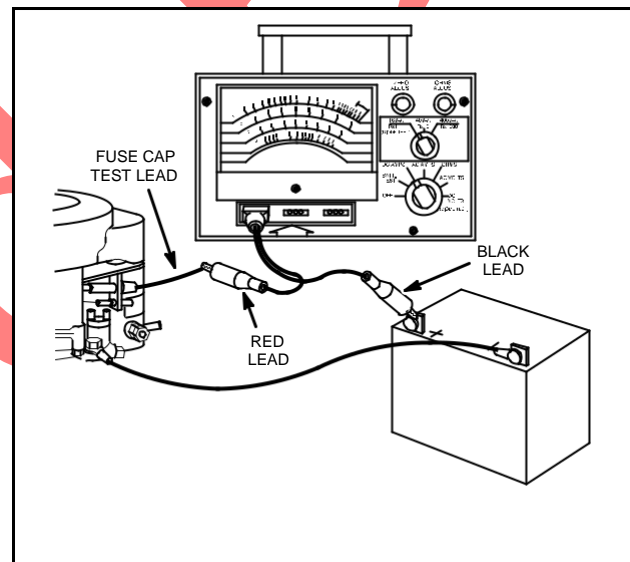

Fig. 753 – TESTING ALTERNATOR OUTPUT
5. Attach RED test lead clip to fuse cap test lead, Fig. 753.